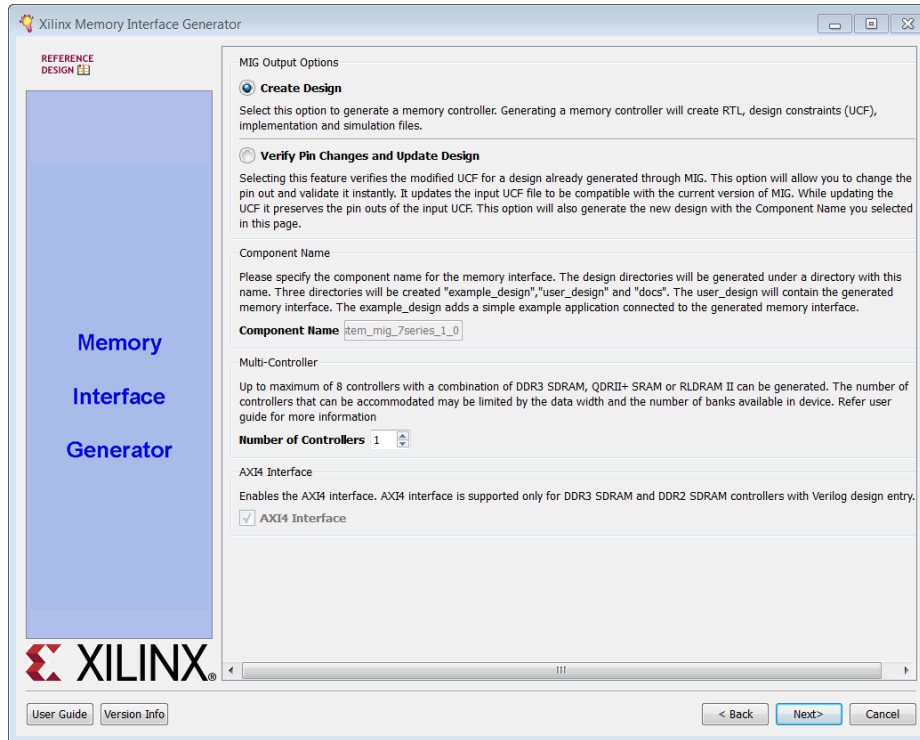

Figure 91: Page 2: MIG Options
- c. Ensure that the AXI4 interface checkbox is checked, and click **Next** (Figure 91).